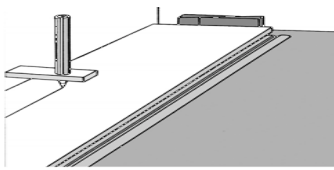

Fig.1
- The flooring should be installed parallel with the longest wall, since walls are often not straight and rooms are not square, use care in putting down the first row of flooring, use a chalk-line as a guide to ensure the first row is straight and scribe the first row to the wall if necessary. Use blocks or wedges to align the first row to the chalk line. It is very important that the first row is straight, do not fasten the first row to the floor (Fig.1).